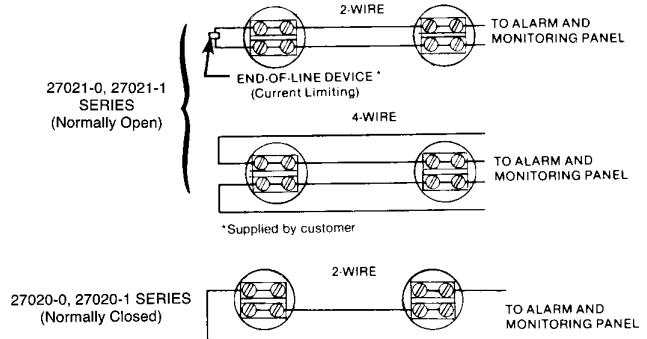

Figure 3: System Wiring
- Run system wiring through rubber grommets and connect to terminals on detector per Figure 3 observing applicable electrical codes.
- Connect system wiring to terminals on detector per Figure 3 observing applicable electrical codes.